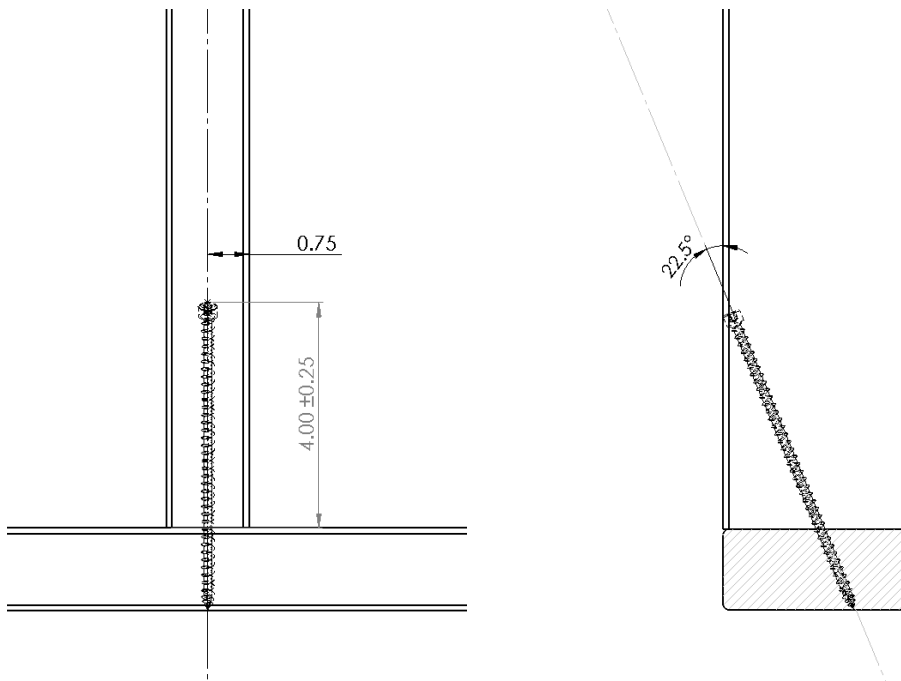
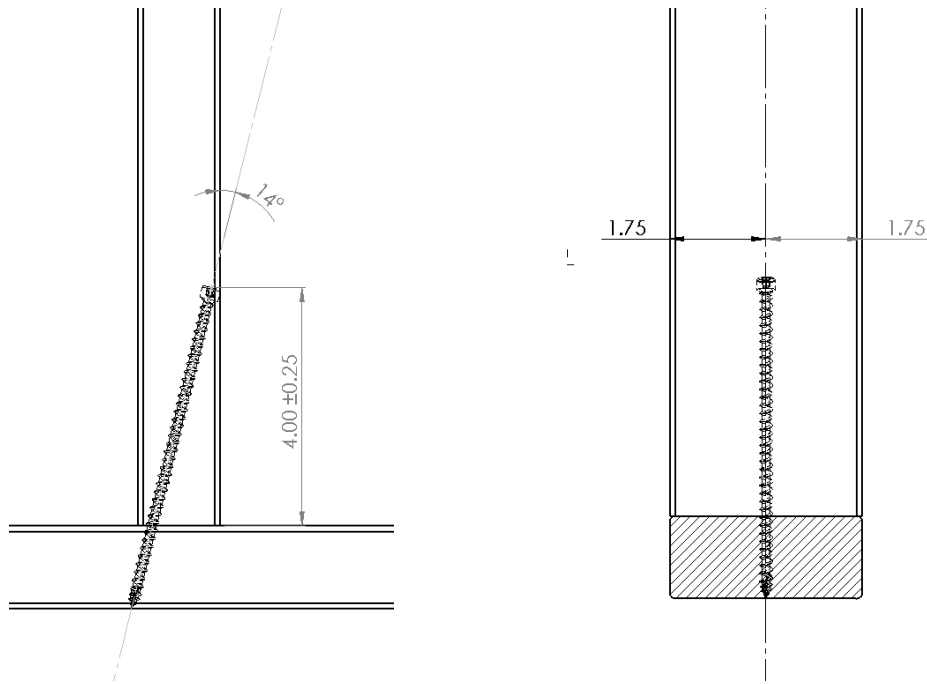
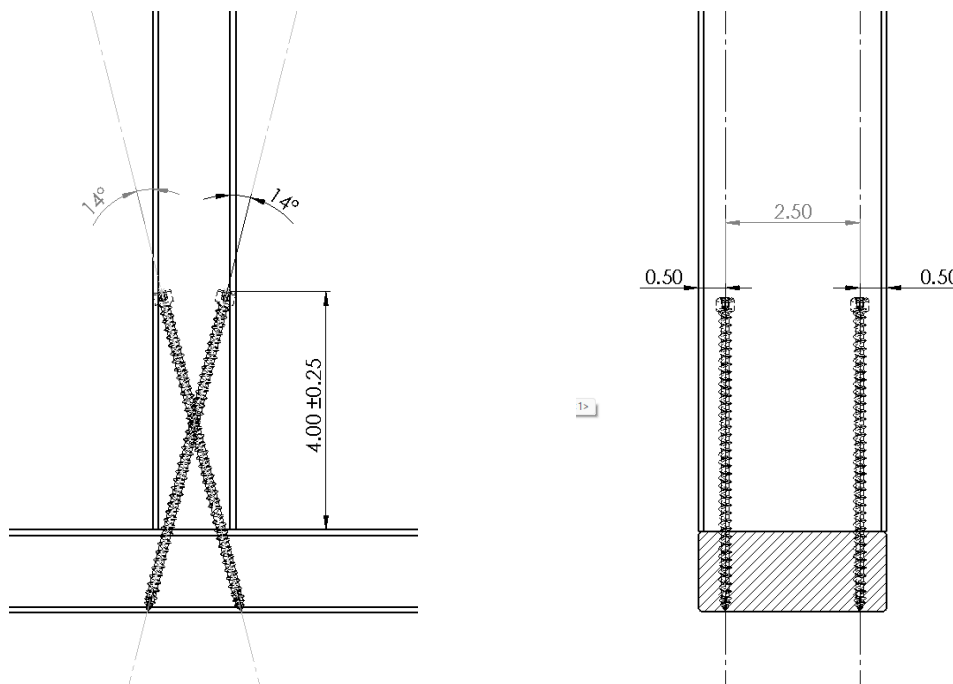
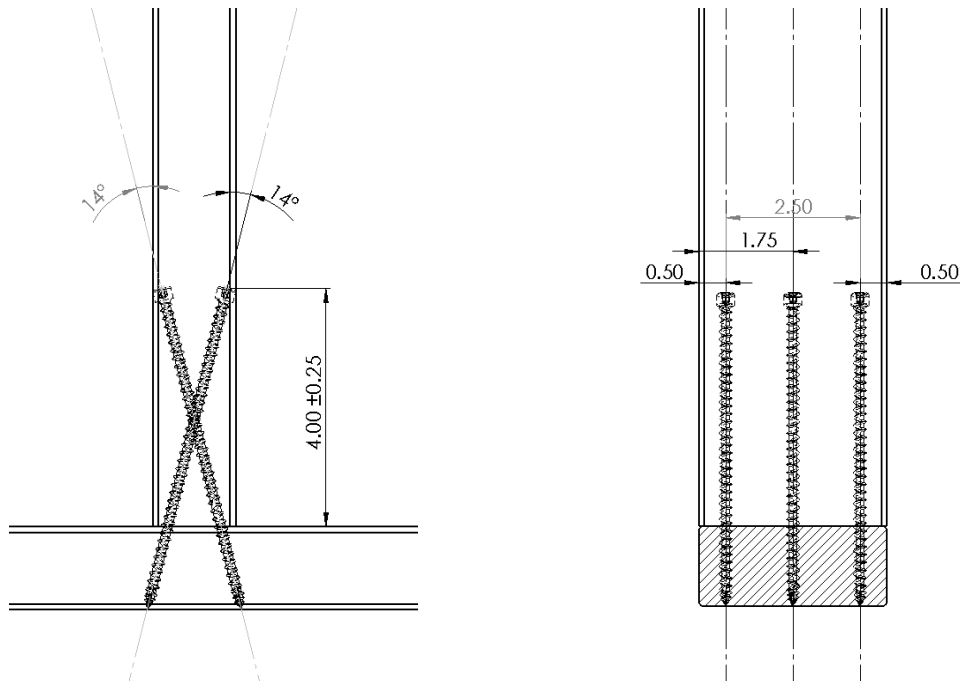

Figure 7. Stud to Bottom Plate – 22.5° (Angle), One #14 x 6" Truss Screw Option
Figure 8. Stud to Bottom Plate – 14° (Angle), One #14 x 6" Truss Screw Option
Figure 9. Stud to Bottom Plate – 4°-14° (Angle), Two #14 x 6" Truss Screws Install Option
Figure 10. Stud to Bottom Plate – 4°-14° (Angle), Three #14 x 6" Truss Screws Install Option
2.7.1.2.1 Fasteners shall be installed at a downward angle from the vertical of 20° to 30° into the narrow face (Figure 7) and within ¼" of the centerline of the stud, or shall be installed at a downward angle from the vertical of 4° to 14° into the wide face (Figure 8) and within ¼" of the centerline of the stud.
2.7.1.2.2 For multiple fasteners, the CAMO Series #14 x 6" Truss Screws shall be installed at a downward angle from the vertical of 4° to 14° into the wide face (Figure 9 and Figure 10) of the stud while upholding the fastener spacing provided in Table 1.
2.7.1.2.3 Starting from the specified end distances shown in Figure 7 through Figure 10 (at a minimum), drive the fastener until the bottom surface of the fastener head fully bears against stud (see Figure 7).